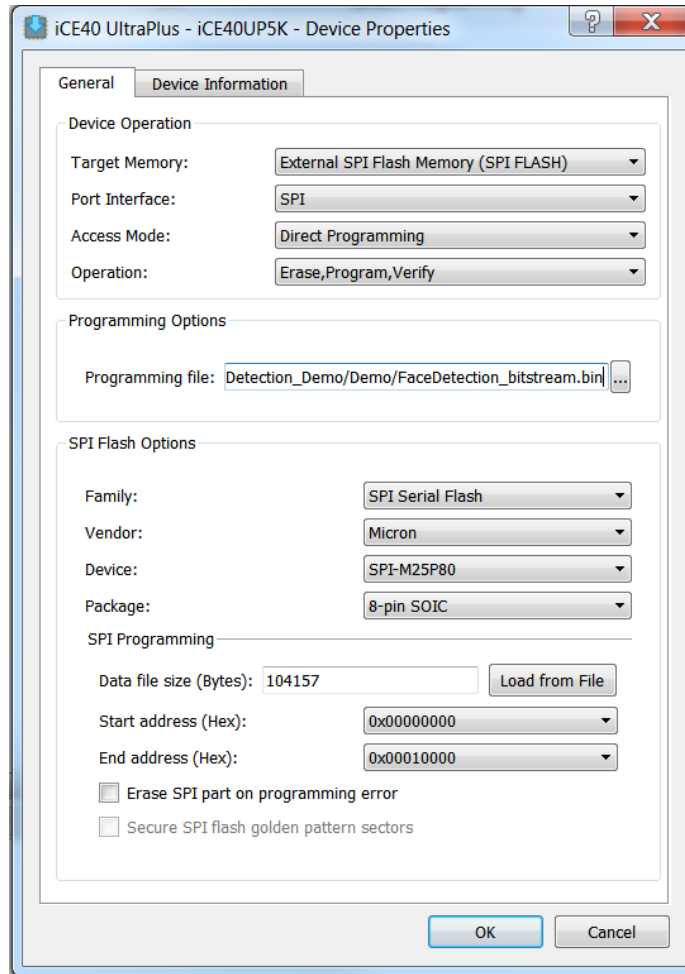

Figure 4.2. Bitstream File Settings
7. To program the bitstream file, select the options below as shown in Figure 4.2.